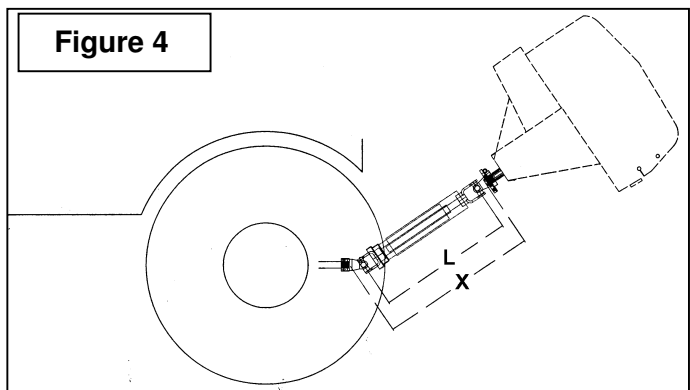

Figure 4
1. To determine the "L" length for your tractor model first find the "X" factor by measuring the horizontal distance between the end of the tractor's drive shaft and the end of the snowblower's driven shaft when the snowblower is in transport position as shown on Figure 4.
(Figure 4)